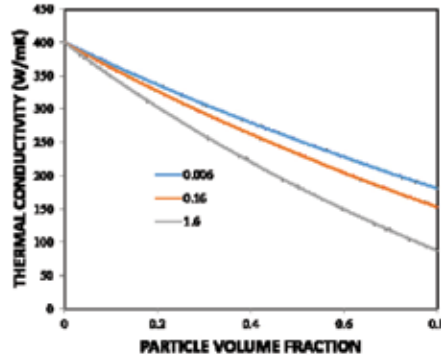

Figure 2 Thermal conductivity with different Biot numbers.
where K refers to the thermal conductivity, V is the volume fraction, h is the interfacial thermal conductivity in W/m^2K ($1/h$ is the Rint of the metal-particle interface), D is the particle diameter. The subscripts c , p and m refer to the composite, particle and matrix, respectively. With common metal-matrix composite systems, the interfacial thermal barrier is thought to arise primarily from phonon-scattering due to the large elastic property mismatch. Biot number, used commonly to describe the relative interfacial convection resistance at the solid-vapor interface to that inside the solid, can also be used to describe interfacial thermal conduction resistance in particulate composites. The net effect of particle size (d) and interfacial thermal conduction resistance (Rint) is represented in this case as $K_m Rint/d$ [12-13]. The composite thermal conductivity as a function of particle volume fraction for various Biot numbers is modeled using Equation (4), and is schematically illustrated in Fig. 2, for a particle size of $1\mu m$. High thermal conductivity is retained with low interfacial thermal resistances (low Biot number) or using larger filler particles.